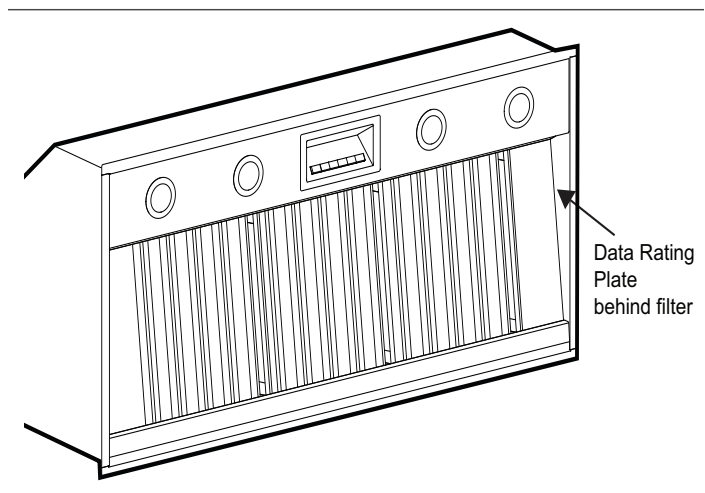

Figure 6: Data Rating Plate Location
- The rating label and serial number labels are on the hood filter spacers and are visible after the filters have been removed (*Figure 6 on page 8*).